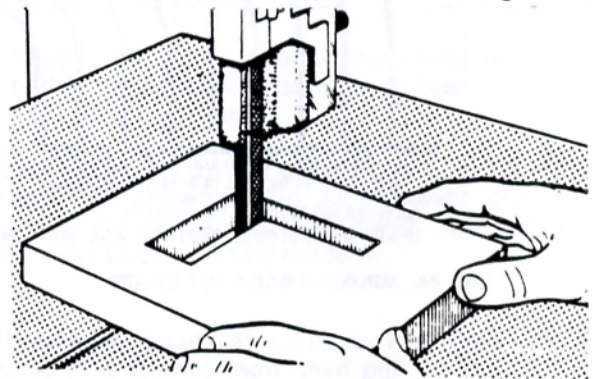

FIG. 50. INTERNAL BAND FILING.
- (1) Release band tension. Remove band from wheels and separate it by bending joint to approximately 12 inches (305 mm) radius.
- (2) Use left forefinger to depress yellow segment front end. Then: (a) Use right thumb and forefinger to disengage dowel; (b) Slide lock rivet to slot's open end and remove.
- (3) Run band through stock and re-assemble. Then: (a) Place band around wheel tires; (b) Apply tension; (c) Check alignment. See Fig. 50.